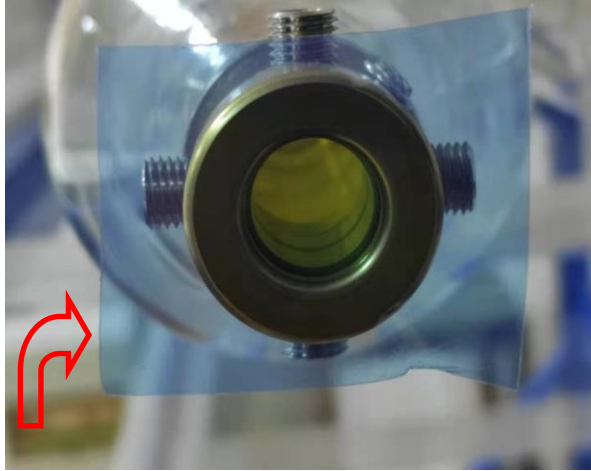
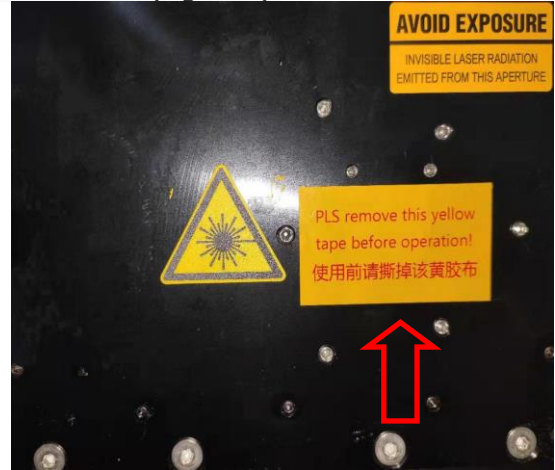

Figure 1
Figure 2
- b. Remove the protective film of the lens before use. The single tube is a blue protective film (Figure 1), and the bundle (200-350 watts) is a yellow protective film (Figure 2).